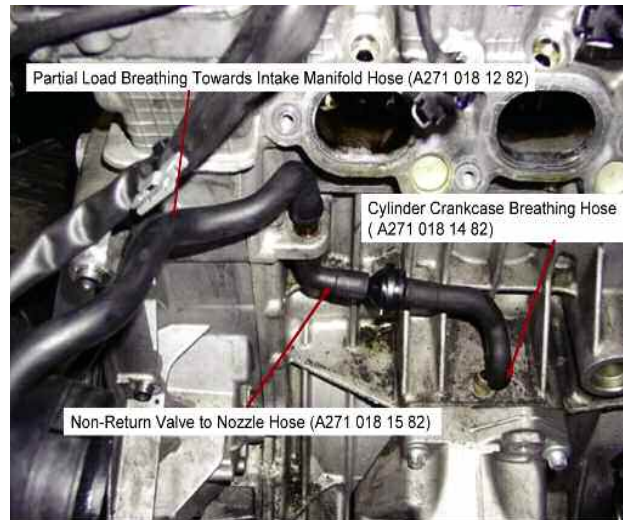

Figure 1
2. Remove and inspect the partial load breathing towards intake manifold hose, cylinder crankcase breathing hose and the non-return valve to nozzle hose for crankcase ventilation. If damaged, replace as needed. Refer to Figure 1 for details.